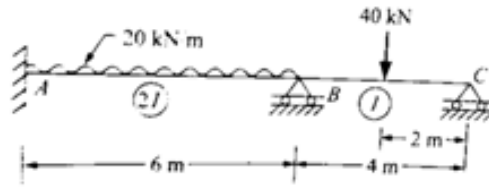

Figure 3
9. (a) Analyze a continuous beam as shown in Figure 3. using Clapeyron's equation of three moment. [7M]